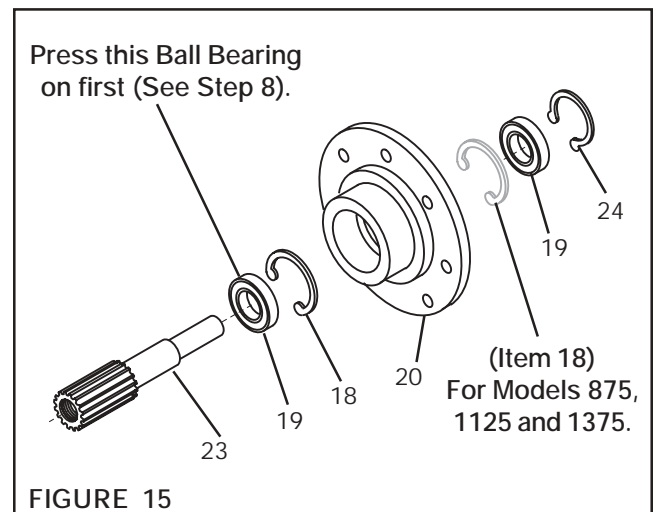

FIGURE 15
4. Remove the Retaining Ring (Item 24) and press the Stub Shaft (Item 23) out of the Male Pilot (Item 20) (See Figure 15).
NOTE: The two old Ball Bearings (Item 19) are removed from opposite ends of the Male Pilot (Item 20). Do not remove Retaining Rings (Item 18) (See Figure 15).
5. Remove one of the old Ball Bearings (Item 19) from the Stub Shaft (Item 23) (See Figure 15).
6. Remove the other old Ball Bearing (Item 19) from the Male Pilot (Item 20) (See Figure 15).
7. Clean the bearing bore of the Male Pilot (Item 20) with fresh safety solvent, making sure all old Loctite® residue is removed (See Figure 15).
8. Press one new Ball Bearing (Item 19) onto the Stub Shaft (Item 23) (See Figure 15).
9. Apply an adequate amount of Loctite® 680 to evenly coat the outer race of the second new Ball Bearing (Item 19) and press it into the output side of the Male Pilot (Item 20) until it is seated against the Retaining Ring (Item 18) inside the Male Pilot (See Figure 15).
10. Apply an adequate amount of Loctite® 680 to evenly coat the outer race of the new Ball Bearing (Item 19) pressed onto the Stub Shaft (Item 23). Then, press the new Ball Bearing and Stub Shaft into the Male Pilot (Item 20) until the Ball Bearing is seated against the Retaining Ring (Item 18) (See Figure 15).
11. Reinstall Retaining Ring (Item 24) (See Figure 15).